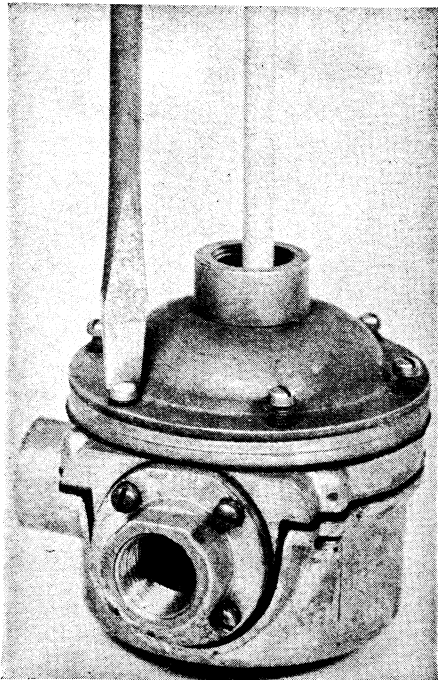

Fig. 19 Hold diaphragm down to relieve tension on flexible material when tightening cover screws
6. While tightening diaphragm screws, hold diaphragm down just enough to close vacuum valve, Fig. 19. This prevents buckling of diaphragm between screw holes.